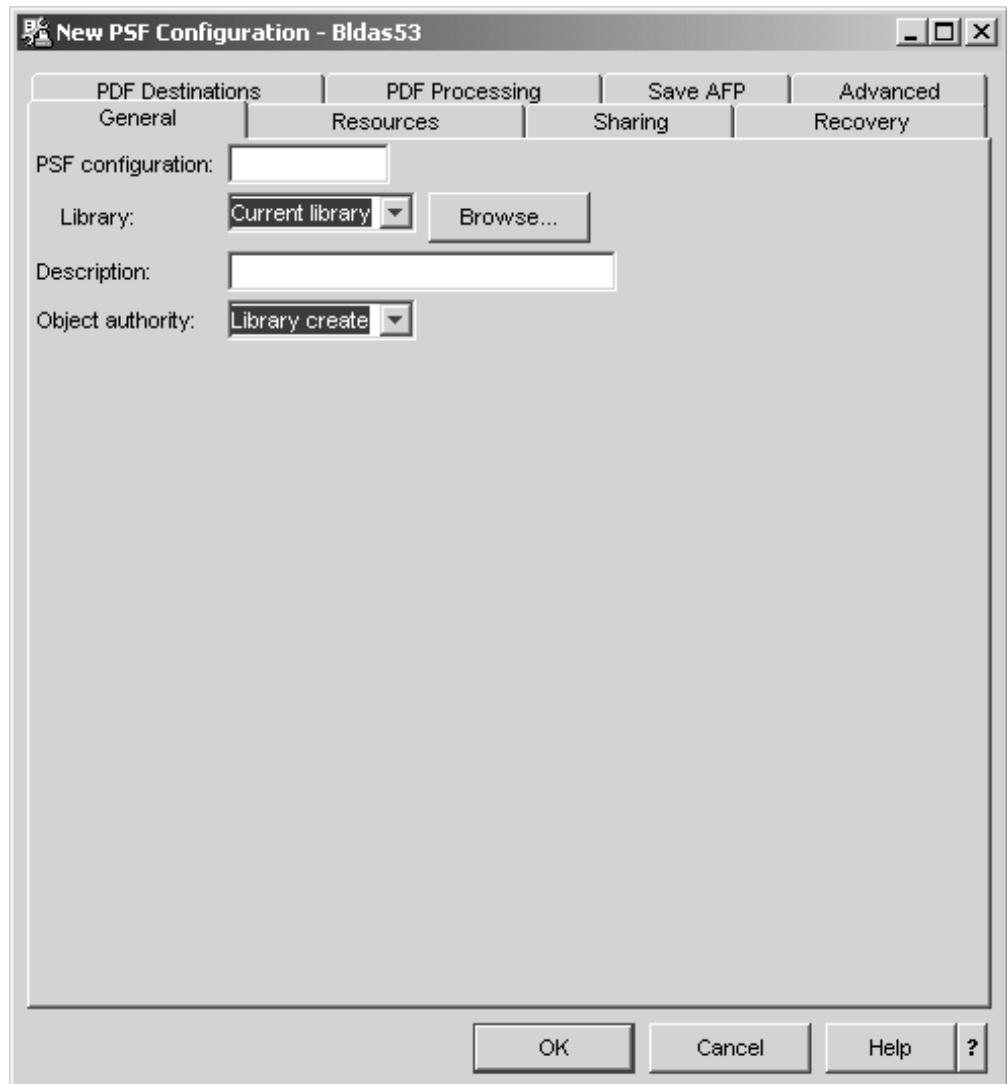

Figure 183. New PSF Configuration Window
6. The window shown in Figure 183 opens. Fill in the fields as prompted. For help press F1 or click **Help**.